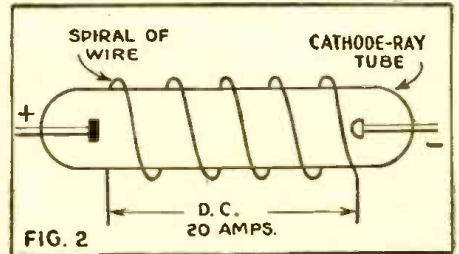

FIG. 2
Magnetic fields tend to bend or curve the path of moving electrons or ions, as will be seen by reference to Fig. 2. Here a cathode ray tube is provided with an outside spiral wire or conductor through which a relatively heavy current (DC) is passed. Under these conditions the electron stream will tend to corkscrew its way down the tube and various effects may be had by compressing or expanding the outside spiral of wire.